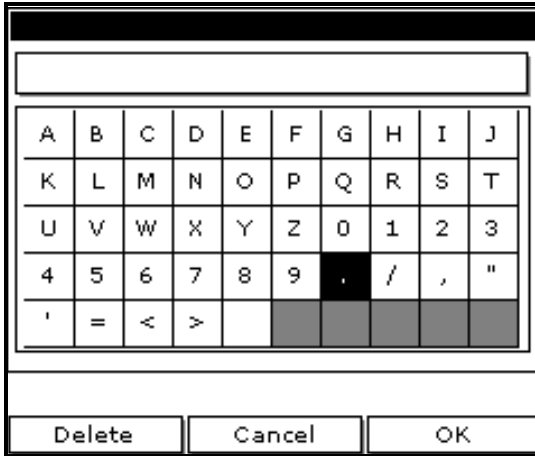

Figure 25: Text Creation Window
3. Use the arrow keys to move to the Label box and press [ENTER]. A screen similar to Figure 25 appears.